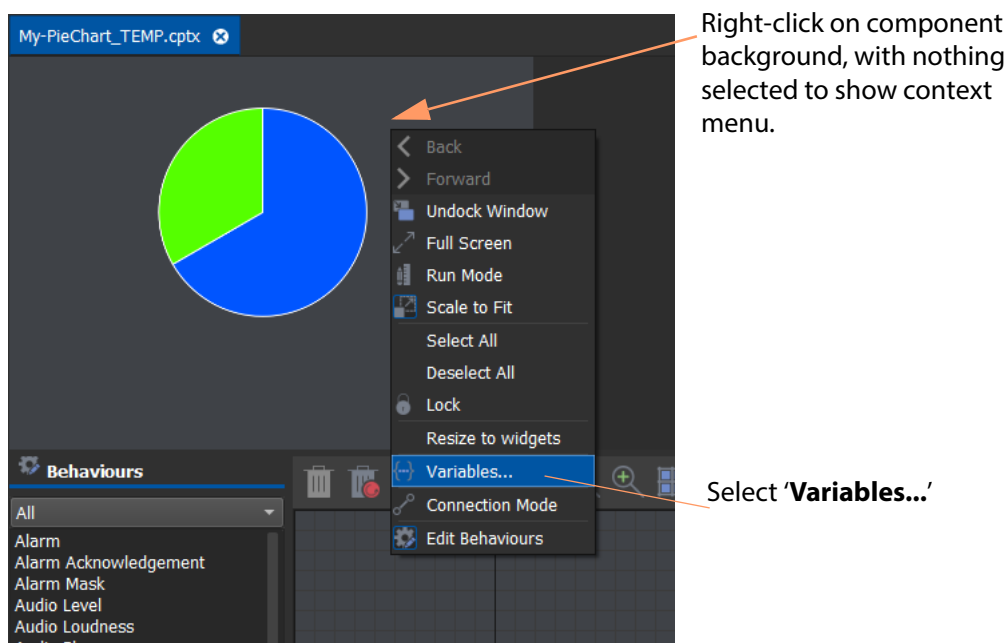
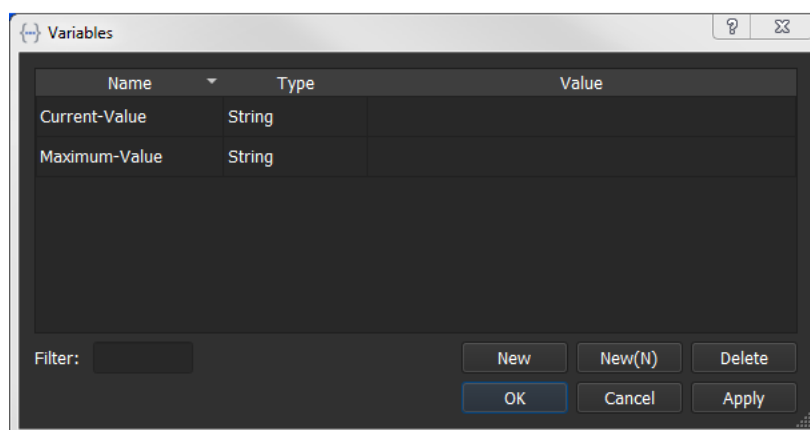

Fig. 4-14: Right-click on Component Background
Fig. 4-15: Variables Dialog
- 1 Right-click on the component's background and select '**Variables...**', see Figure 4-14. The **Variables** dialog is shown. See Figure 4-15.
- 4 Repeat to add a second variable. See Figure 4-15.